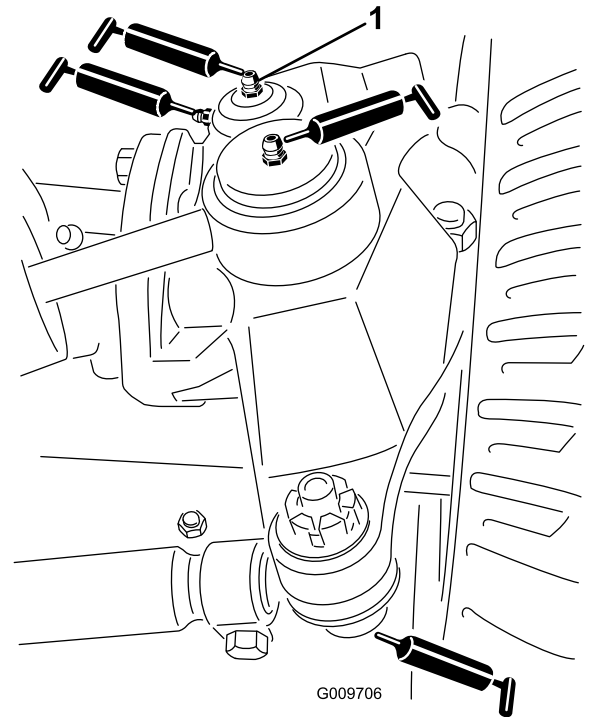

Figure 48
- Steering cylinder ball joints (2) (Figure 48)
- Tie rod ball joints (2) (Figure 48)
- King pin bushings (2) (Figure 48). **The top fitting on the king pin should only be lubricated annually (2 pumps).**